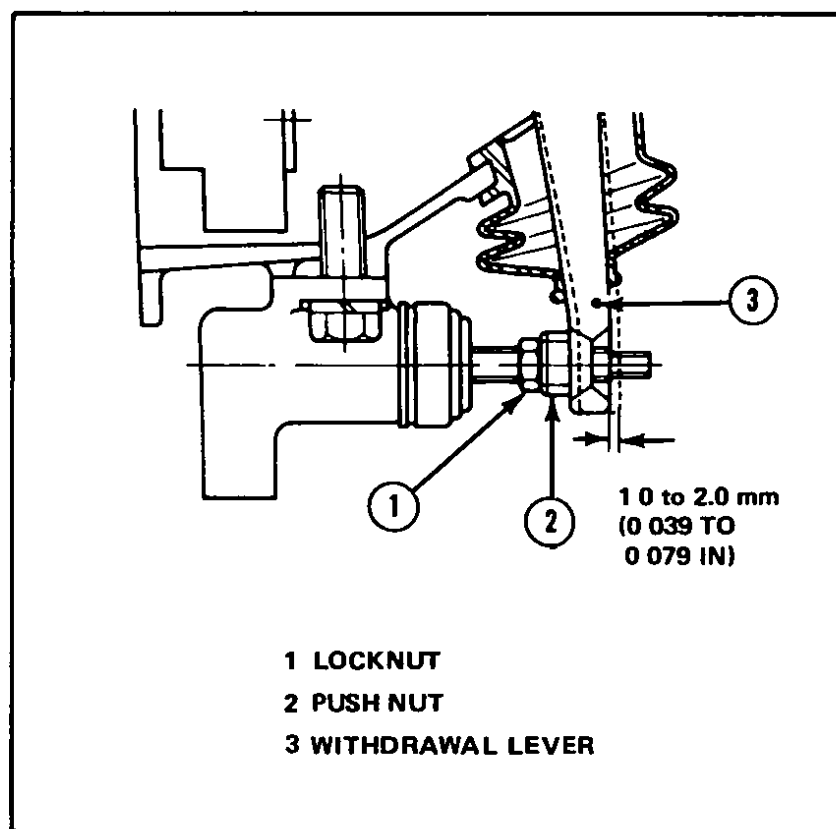

Fig 141 Adjusting clutch pedal travel
- 2 Turn the push rod back approximately $1\frac{1}{4}$ turns so that the withdrawal lever dimension is as indicated in Fig 141.